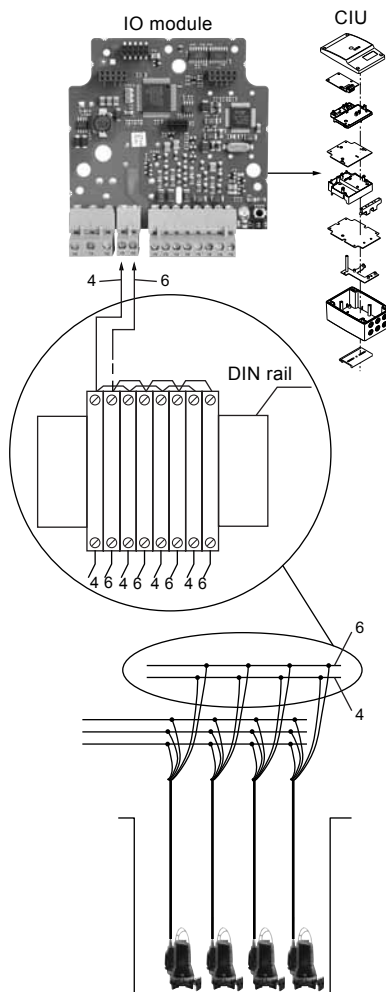

Fig. 7 Powerline connection
Terminals 1 and 2 are used to establish communication with each pump. If more than one pump are installed in the system, the leads are to be connected as shown in fig. 7.
In the upper part of the terminal block, a parallel connection is to be made. Then connect lead 4 to terminal (pos. 1) and lead 6 to terminal (pos. 2). See fig. 7.